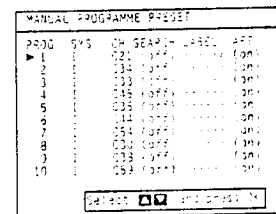

Fig. 7.
- 2 Select Manual Programme Preset with $\Delta+$ or $\nabla-$ and press OK. The MANUAL PROGRAMME PRESET menu appears. (See Fig. 7.)